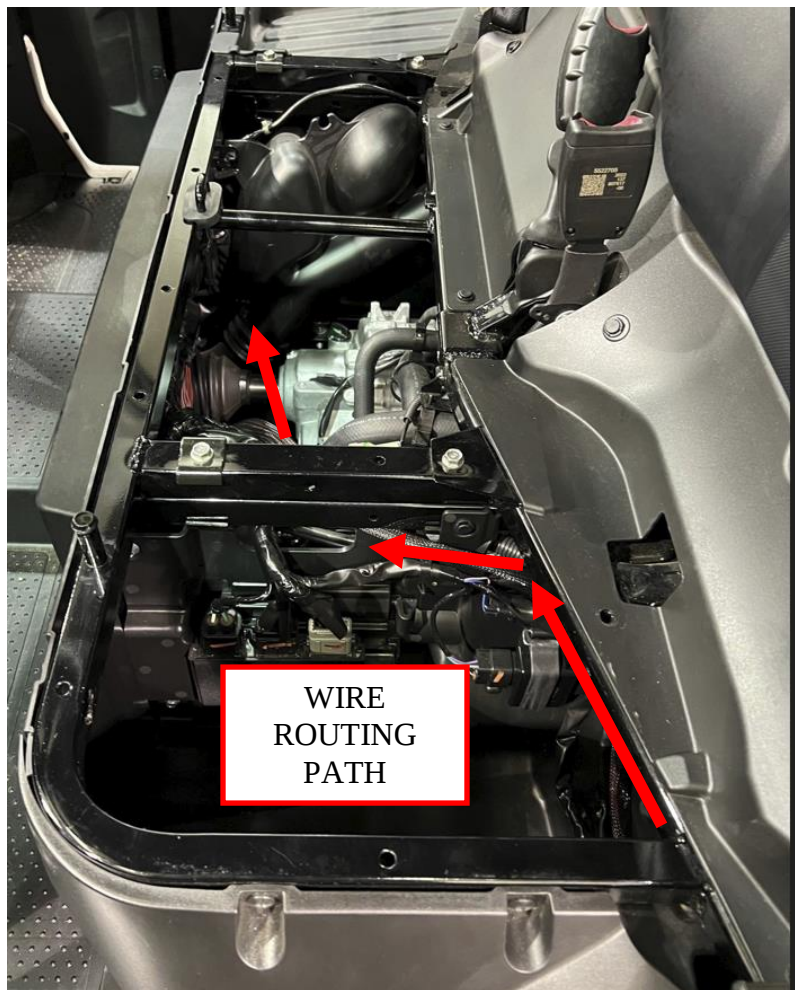

Figure 12: Route the harness through the divider.
11. Pull the battery connector / relay end of the harness through the under seat divider into the center under seat area. See Figure 12.